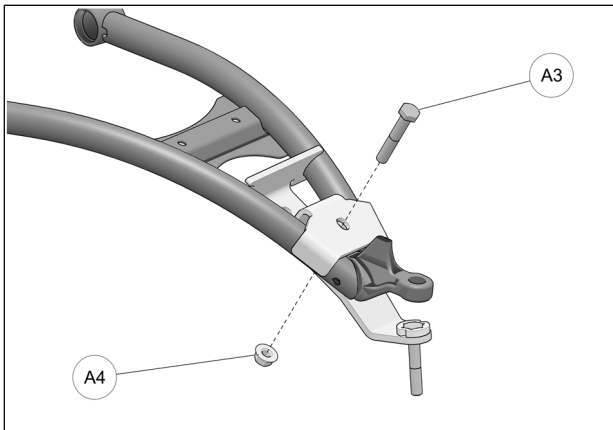

Fig. 15
6. Insert M10x60mm bolt (**A3**) from the top and secure the two parts together with the nut (**A4**) provided. Tighten assembly to 50 N•m [37 lb•ft] of torque. Refer to Fig. 15